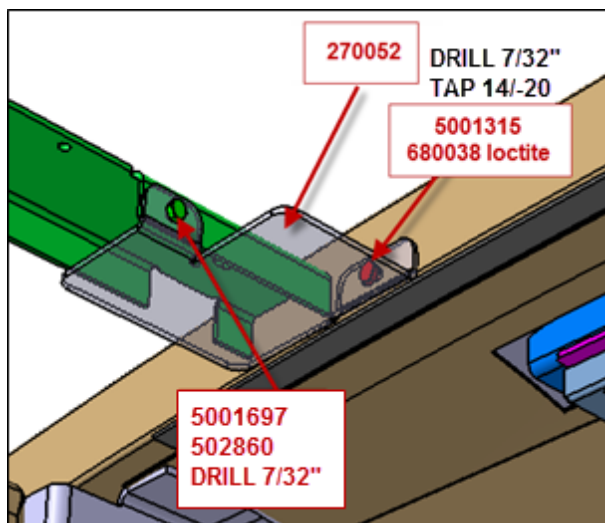

FIGURE 5
5. Install bracket **#270052** as shown in fig. 5. Clamp the bracket on the longitudinal roof channel.